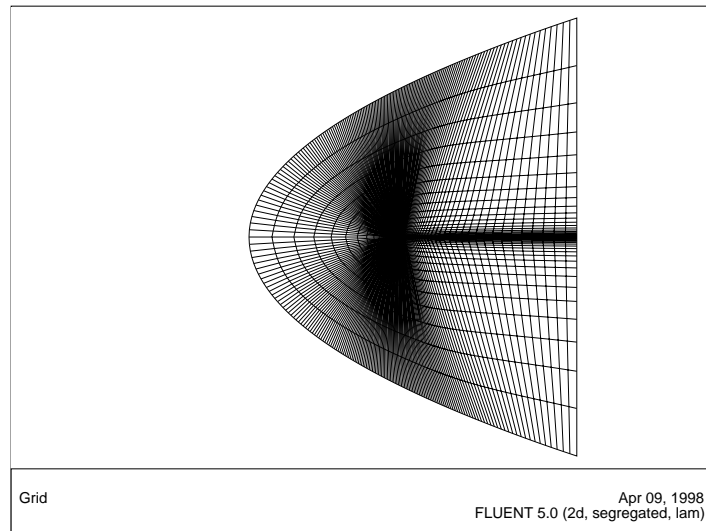

Figure 2.2: The Grid Around the Airfoil
- (a) Display the grid with the default settings (Figure 2.2).